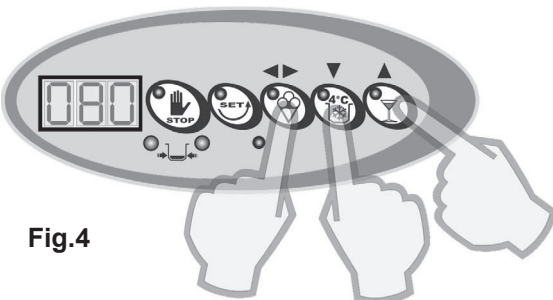

Fig.4
7. If, instead, you wish to change the selected step, press "**PRODUCTION** (◀▶)" to access the parameters relative to the same step, and subsequently press "**CREATIVE** (▲)" or "**PRESERVATION** (▼)" to increase or decrease the value (fig.4). Subsequently, press the "**PRODUCTION** (◀▶)" key to confirm the data.